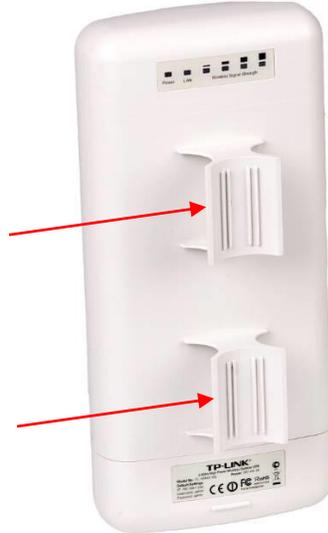

Figure 19: Apply the gaskets to the feet of the access point
1. Remove the paper backing from the oil-resistant cork/rubber gaskets (351521-000004) and place the adhesive side onto the curved feet of the access point assembly. Figure 19 shows the location of the curved feet of the access point assembly.